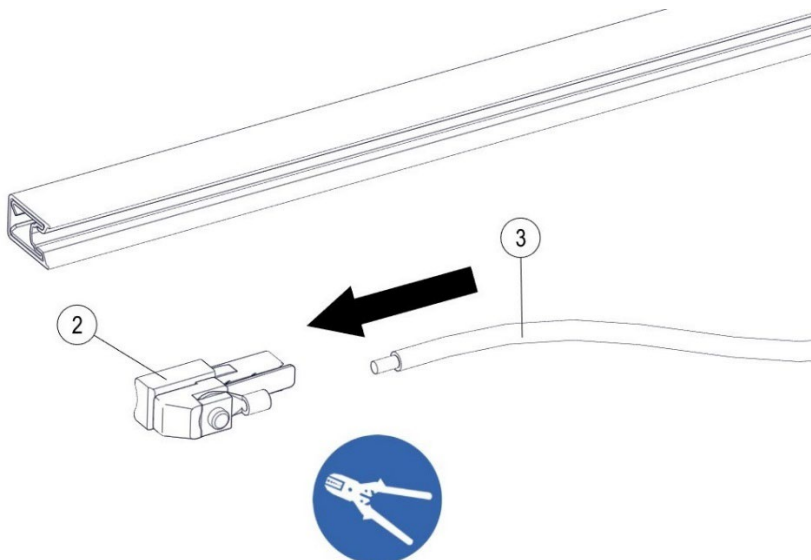

Fig. 96: Crimp connecting cable (Pos. 3) with line feed clamp (Pos. 2)
- Strip the connecting cable (Pos. 3) and crimp with the line feed clamp (Pos. 2) (see Fig. 96).